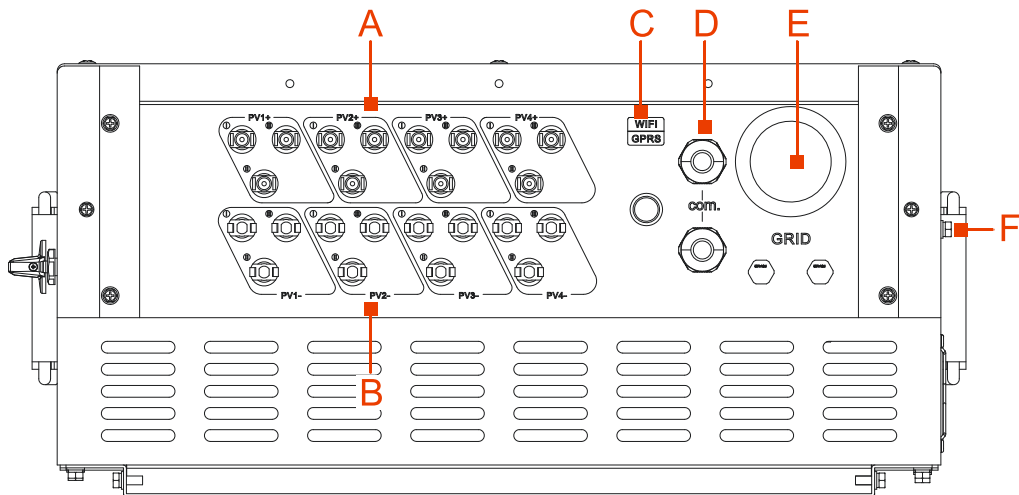

Figure3-9 Connection mark
The wiring for inverter be performed in the bottom of inverter. The mark is as shown in Figure3-9, and the mark meaning is as shown in Table3-1 The recommended wire requirements is as shown in Table3-2.
1. As the SPI30K-B, SPI33K-B and SPI36K-B have six routes of DC input, the three routes of DC input in the mark PV3+, PV3-, PV4+ and PV4- of Figure3-9 don't connect with PV connector. Use plugs to block them.
2. As the SPI40K-B has nine routes of DC input, the three routes of DC input in the mark PV4+ and PV4- of Figure3-9 don't connect with PV connector. Use plugs to block them.